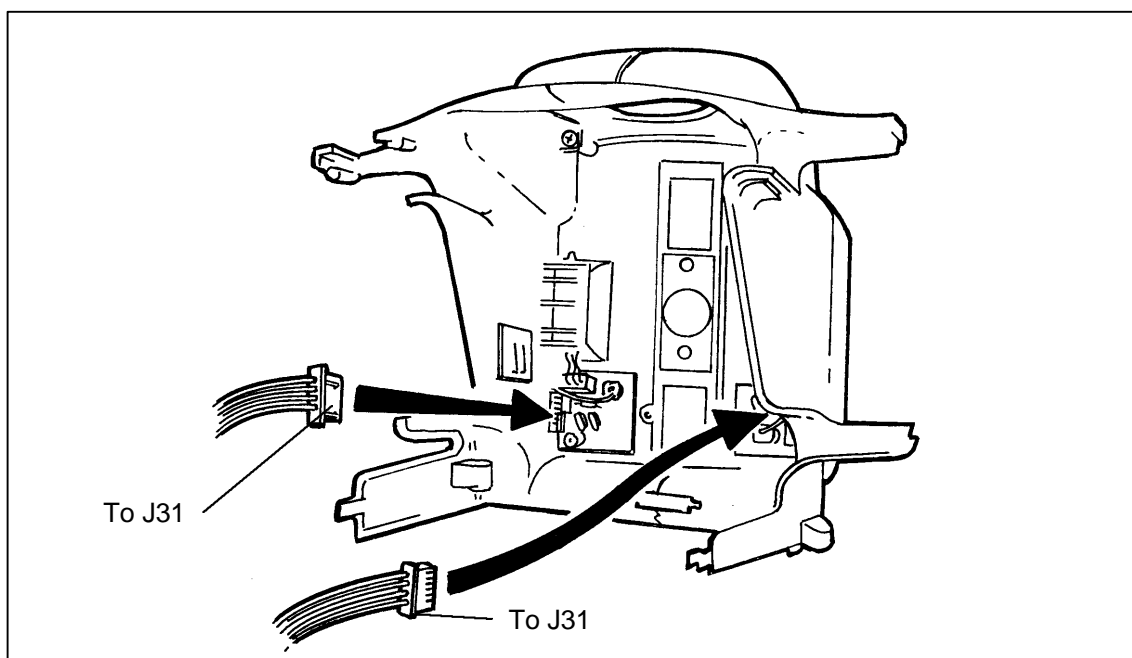

Figure 5-2a Trigger Cables
- n Disconnect both trigger cables (J31) from the trigger PC boards (Figure 5-2a).